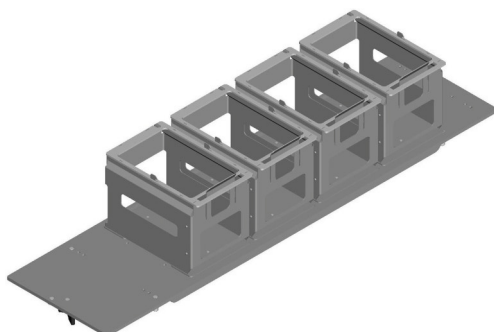

Fig. 6-22 DiTi nest segment, 4 fixed positions
- ♦ An optional "Front DiTi waste wide" (30042794) can be mounted on the front (refer to 6.3.4, Fig 6-22)